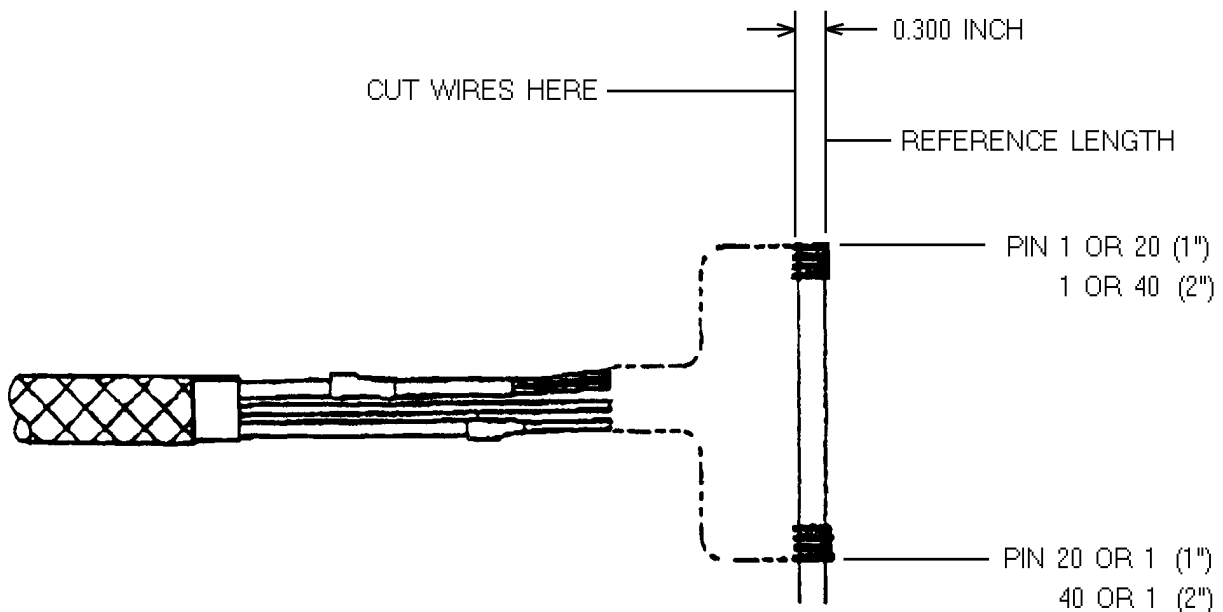

Figure 5-5. Primary Wire Breakout for MTC50 Connector.
- Use of a fixture is recommended to dress the wires into the proper breakout for the terminals of the MTC connector inserts (Figure 5-5).